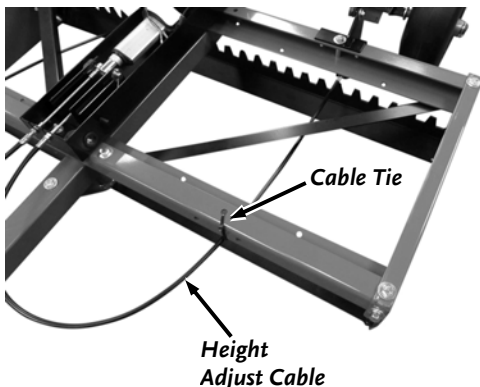

Figure 26
42. Use the holes through the front Crossmember to secure the Height Adjust Cables with Cable Ties (**Figure 26**).